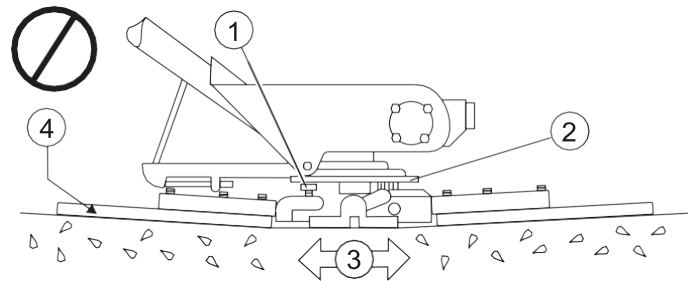

FIGURE 17
13.2.2 Pitch the blades as flat as possible. The adjustment bolts should all barely make contact with the lower wear plate on the spiderbox. If one is not making contact, adjustment will be necessary. (Figure 17 **FIGURE 4**).
Figure 17 FIGURE 4 illustrates, "incorrect alignment", worn spider bushings or bent trowel arms. Check that the adjustment bolt is barely touching (0.10" max. clearance) lower wear plate. All alignment bolts should be spaced the same distance from the lower wear plate.